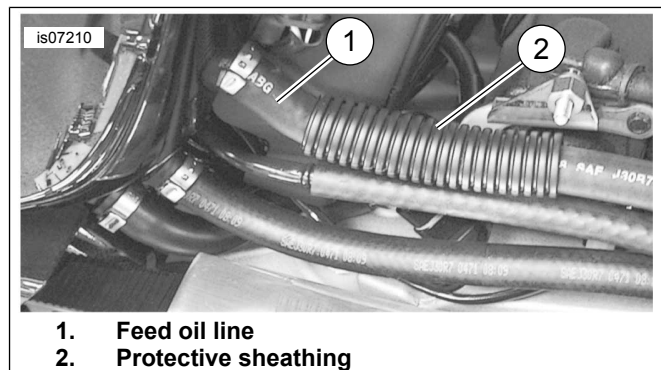

Figure 6. Protective Sheathing
8. See Figure 6. Install the included protective sheathing (2) over the feed oil line (1).